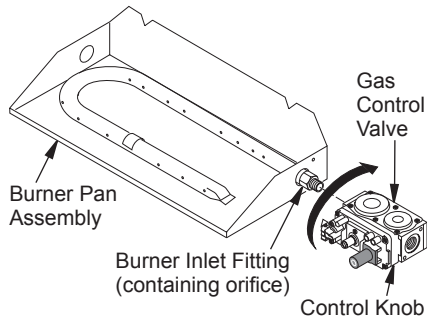

Figure 7 - Installing Gas Control Valve (Valve May Vary from Illustration)
1. Remove burner inlet fitting from burner manifold (see Figure 7).
3. Thread the gas control valve onto the burner inlet fitting (see Figure 7). Use thread sealant on the male threads of the burner inlet fitting. Hold the burner inlet fitting with a wrench to prevent overtightening the connection to the burner. Make sure the control knob is facing the front (see Figure 7).
4. Replace burner inlet fitting into burner manifold (see Figure 7).